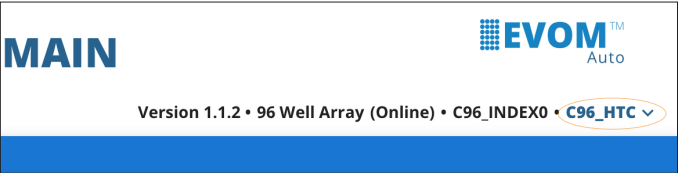
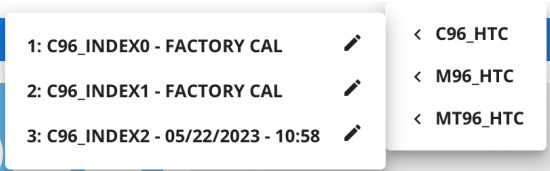

Fig. 20—Click on the brand in the upper right corner under the EVOM™ Auto logo to access the plate brand and plate profile menu.
Fig. 21—The plate brand and profile menu displays. In offline mode, you can see all the plate brand options. In online mode, only the available option displays.
1. To select the desired brand and plate profile, click on the brand name under the EVOM™ Auto logo in the upper right corner of the Main window (Fig. 20). A dropdown menu displays (Fig. 21).